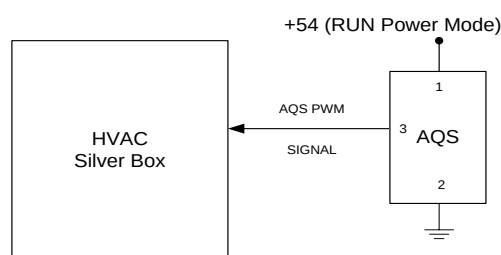

Figure 1: Electrical Connection
3.1.4.3 Component to Subsystem. The sensor is mechanically connected to the water tray or filter housing in the vehicles plenum area and electrically connected according to Figure 1.